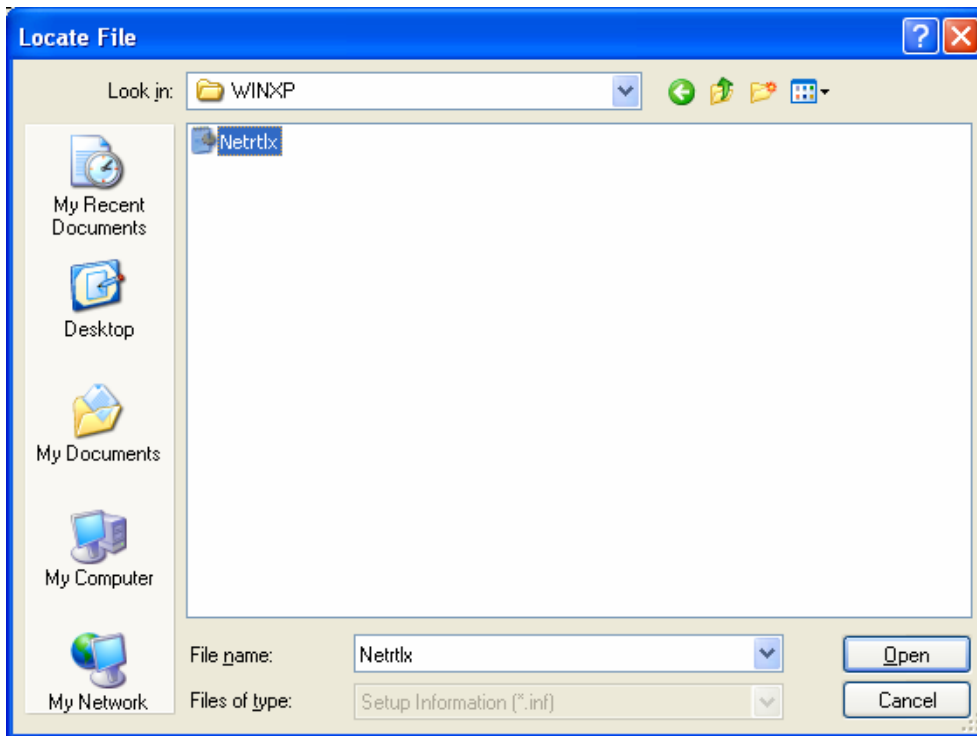

Figure 2-22
Step 9: Locate the appointed driver as shown in Figure 2-22, click **Open**.